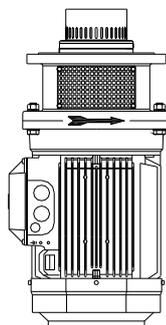

Figure 6.1
3. Check that the direction of rotation of the impeller is correct (it must rotate clockwise looking from the drive side. See figure 6.1.